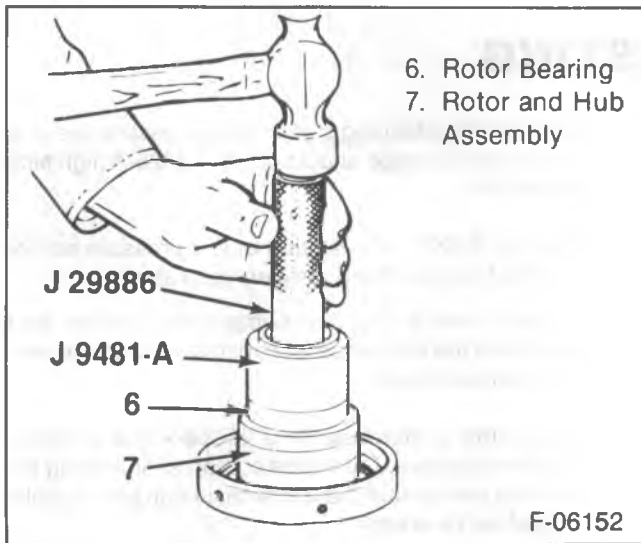

Figure 33—Installing the Clutch Rotor Bearing
1. Bearing to the rotor hub using J 29886 and J 9481-A (figure 33).